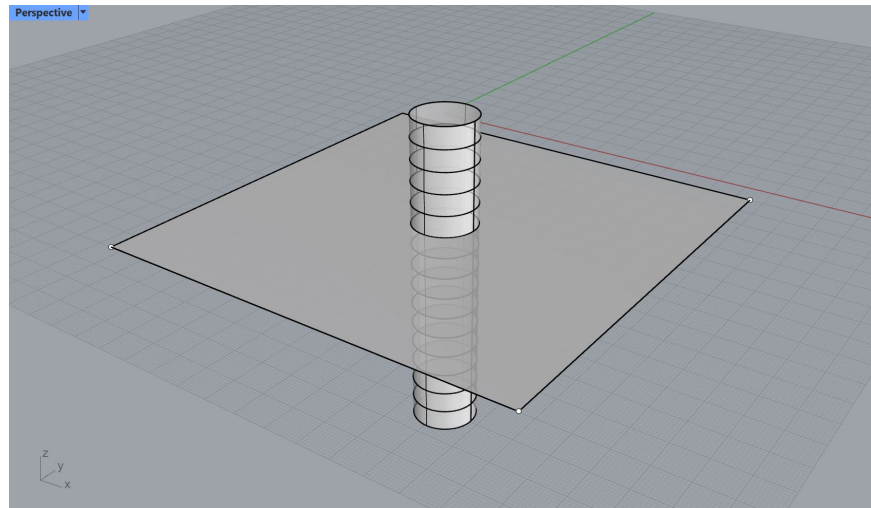

Figure 12: Construction of a shaft and a plane separating two layers of soil (Ghosted view).
9. Connect all points by a horizontal plane by typing the **_Plane** command and start dragging a plane from one of the “side” points (the first or third in the list above). The objects should look as shown in Figure 12.